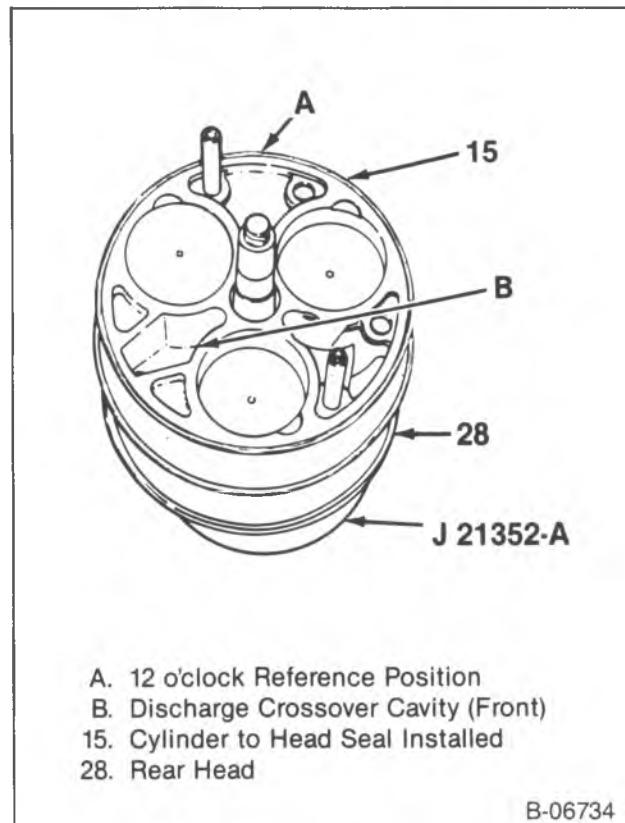
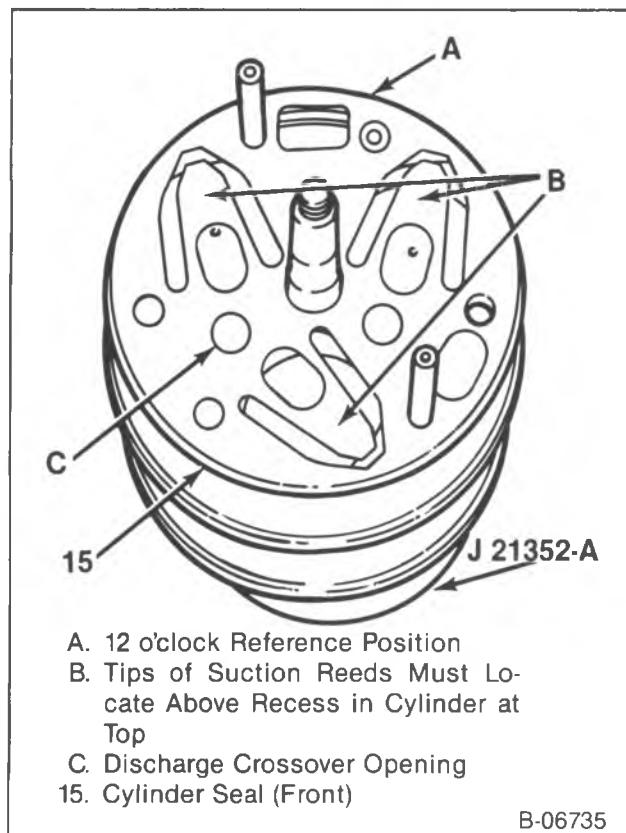
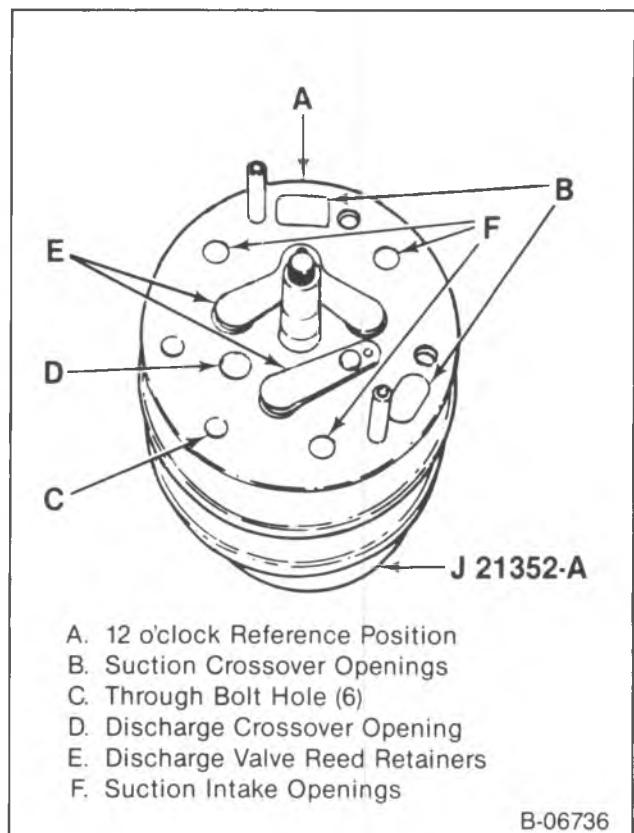
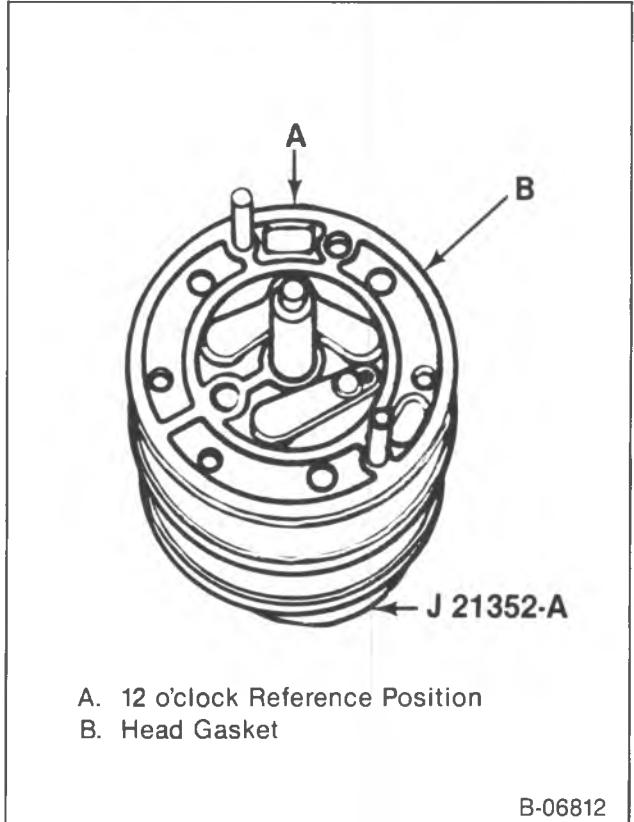

Figure 34—Installing the Front Head
Figure 35—Installing the Front Suction Reed Plate
Figure 36—Installing the Front Valve Plate
Figure 37—Installing the Seal to the Front Head
- Assemble cylinder and shaft assembly over the guide pins onto the rear head (28) (figure 34).
- Using both hands, press the cylinder and shaft assembly down into the rear head (28).
- Lubricate a new cylinder to front head seal with clean 525 viscosity refrigerant oil and install in the front seal groove (figure 34).
- 8. Suction reed plate (14).
- Over J 33016 guide pins (figure 35).
- 9. Valve plate (13).
- Over J 33016 guide pins (figure 36).
- 10. Head gasket (12).
- Over J 33016 guide pins (figure 37).
- 11. Front head (11).